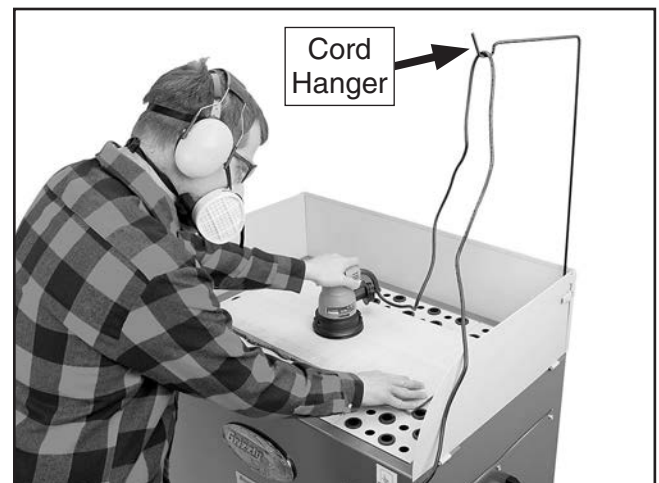

Figure 15. Typical sanding operation setup.
3. Place workpiece on table, turn downdraft table **ON**, and perform operation (see **Figure 15**).
Tip: Use power cord hanger (see **Figure 15**) to keep long cords out of the way.